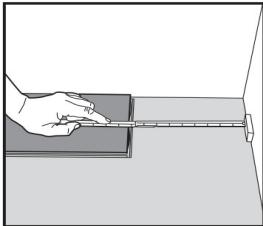

Figure 4.
- iv. Begin installing the first row by laying a board down flat on the subfloor. (Figure 4) Align the end of the second board with the first and snap end-locking system together by simply pushing it straight down on top of the first board. Repeat this step to install the remaining boards in the first row. Cut the last board in the row to the remaining length or use an end board that was supplied in the carton. If leftover piece is 12" or longer, use it to begin the next row. (Figures 2 and 3)